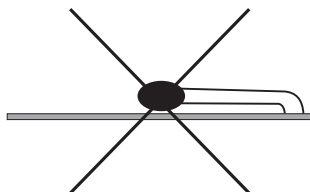

Fig. 6 Incorrect location of the thermistor in a transmitter
3. Check the position of the thermistor. Make it straight if bent (see Fig. 6).